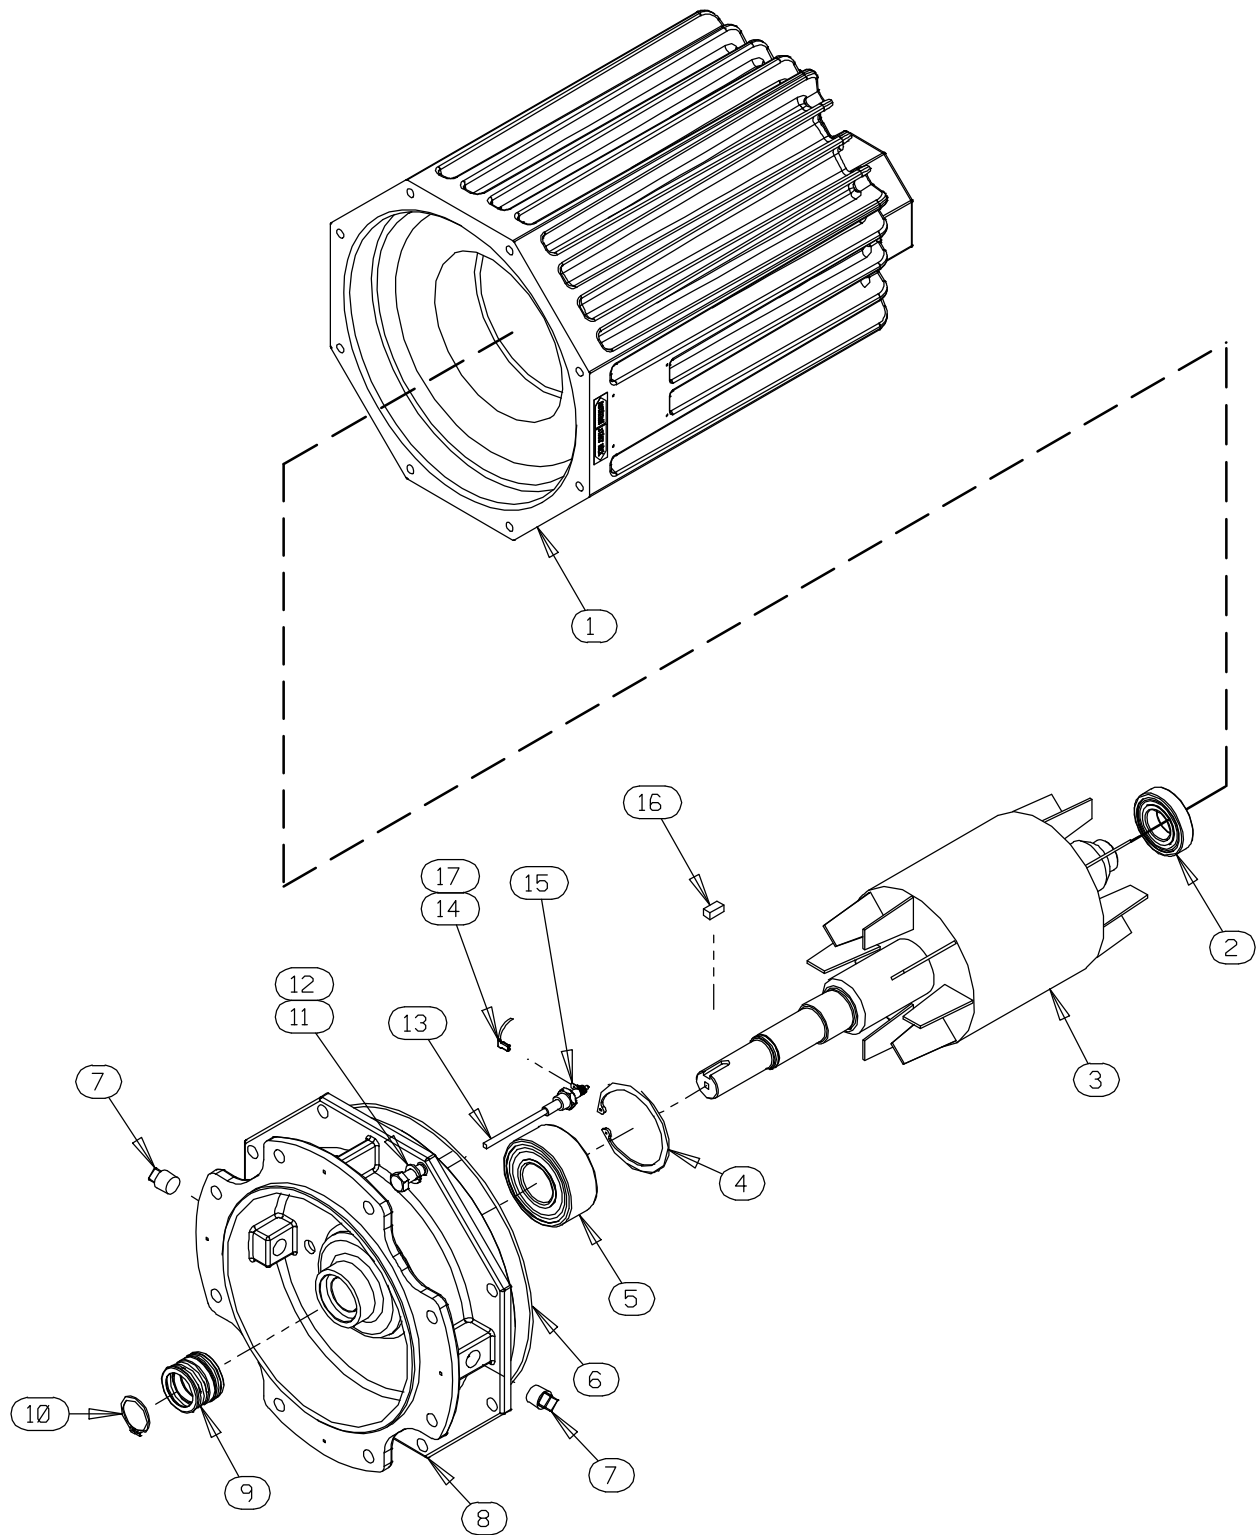

Figure E-2. Motor Assemblies
(Figure E-2)
To remove the impeller, use two thin-bladed screwdrivers positioned 180° apart to pry on the back of the impeller and “walk” the impeller off the shaft. Use increasingly larger screwdrivers (or wedges) as necessary. After the impeller comes free of the shaft, retain the impeller key (16, Figure E-2).
An alternate method of removing the stationary element is to remove the screws (20) securing the seal plate (19) to the motor assembly (13). Pry the assembled seal plate and stationary element off the shoulder of the intermediate (8, Figure E-2). Remove the O-ring (11) and press the stationary element and seat out of the seal plate from the back side.